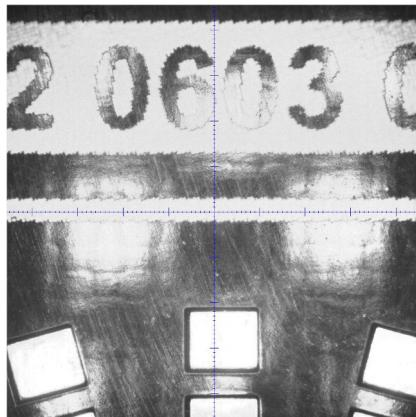

Fig.2
- ① Adjust the position of the board in rail via clicking items "Rail forward" and "Rail backward".
- ② Click "Align" enter into below interface (See fig.2), then adjust the position of camera until to the limited place (See fig.3). Click "Save" item to save the setting, return to the main page